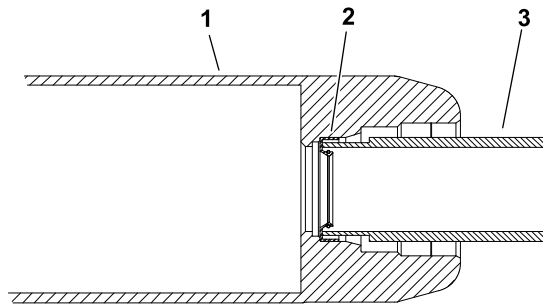

Figure 190
1. Install inner seals into roller tube making sure that seal lip (and garter spring) faces end of tube. Use inner seal tool (refer to Special Tools \(page 2–13\)) and soft face hammer to fully seat seals against roller shoulder (Figure 190). Apply a small amount of grease around the lip of both inner seals after installation.